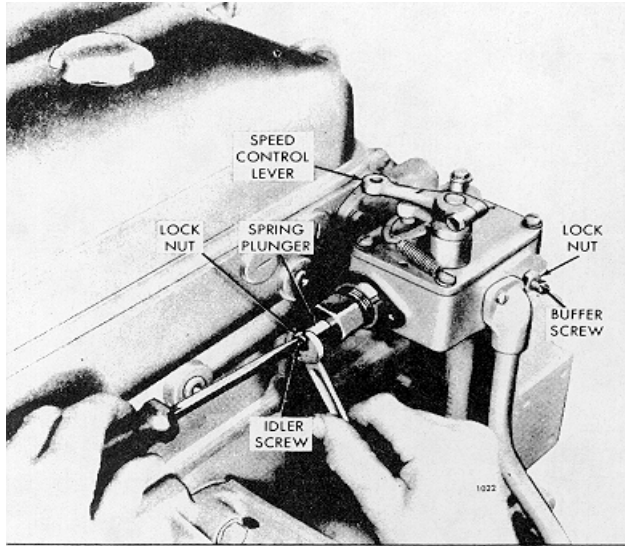

Fig. 7 - Adjusting Engine Idle Speed
- 2 With the engine at normal operating temperature and with the buffer screw (Fig 7) backed out to avoid contact with the differential lever, turn the idle speed adjusting screw until the engine is operating at approximately 15 rpm below the recommended idle speed.
With the idle speed set, adjust the buffer screw as follows: 1. With the engine running at normal operating temperature, turn the buffer screw (Fig. 7) in so that it contacts the differential lever as lightly as possible and still eliminates the engine roll.